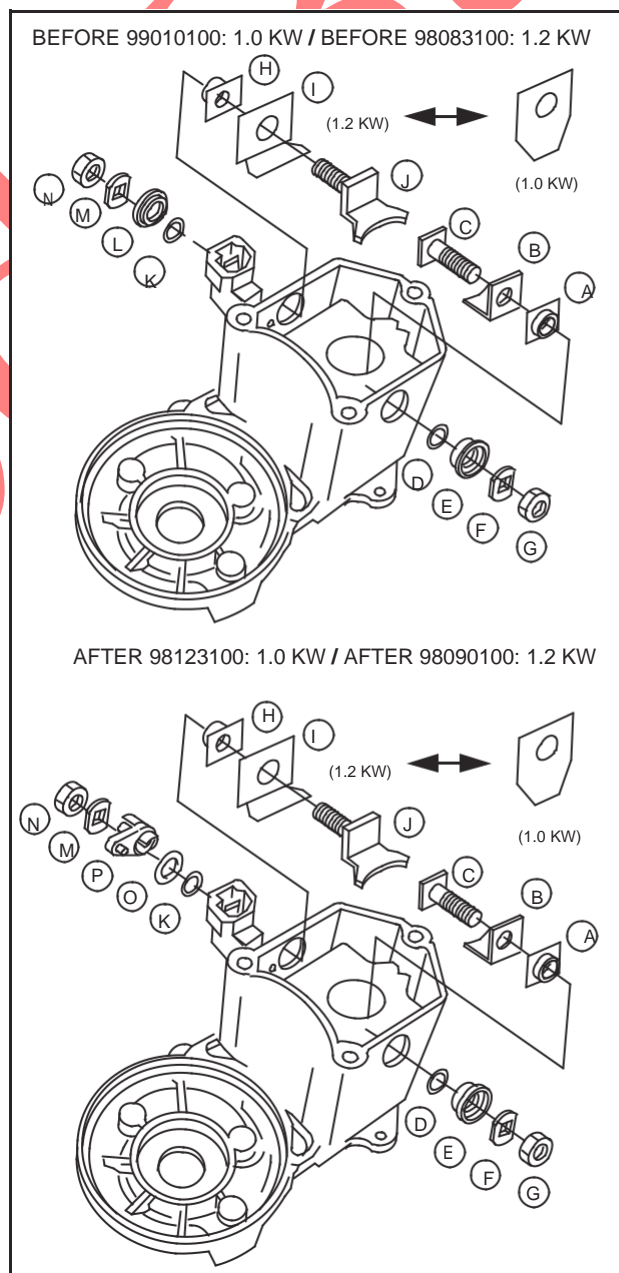

Fig. 65 – Contact Assemblies
6. Remove components in sequence shown, Fig. 65.
7. Install components in sequence shown, Fig. 65.